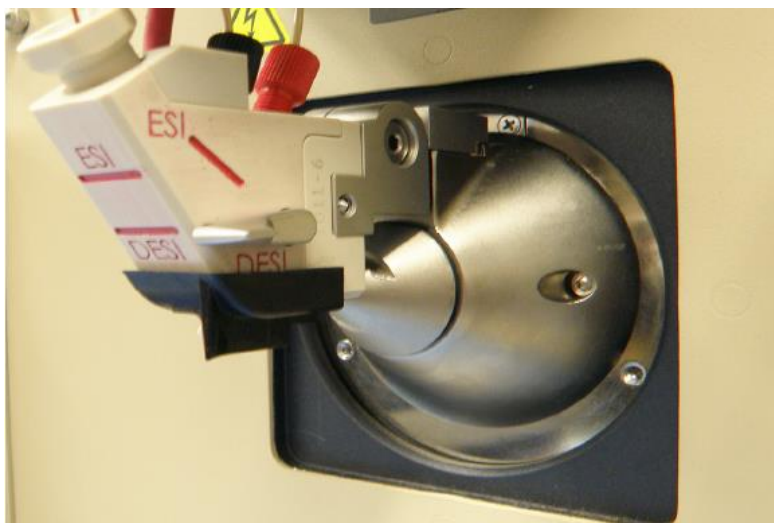

Figure 2.6 – Successful installation of swab guide
2. The swab guide can now be installed by centering it under the DESI source, with the curved portion of the guide facing out or towards the user. Slide the swab guide onto the bottom of the DESI source until it is firmly in position (Figure 2.6).